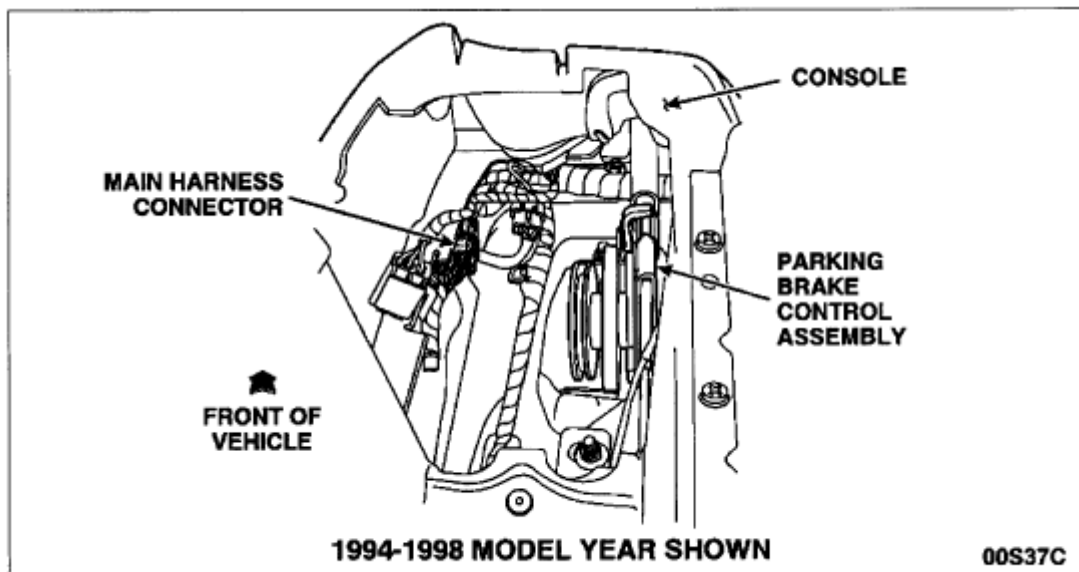

FIGURE 3
5. On 1994-1998 model year vehicles, disconnect the main harness connector. See Figure 3.
6. Remove the four (4) console retainer screws, pull the parking brake handle to an upright position and remove the console assembly from the vehicle.